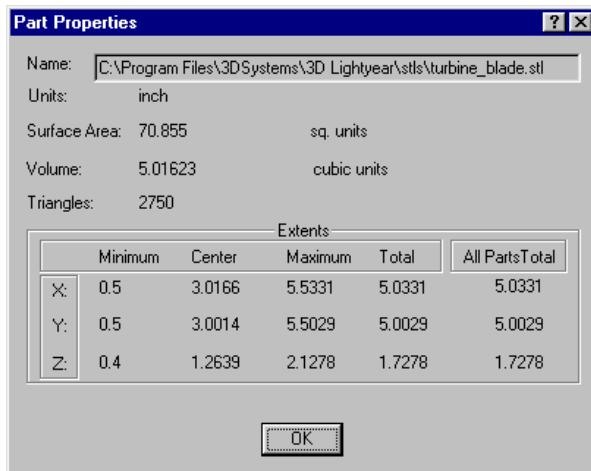

Figure 43. Part Properties Dialog
14. Click the "Part Properties" ...  icon which opens the dialog illustrated in Figure 43.